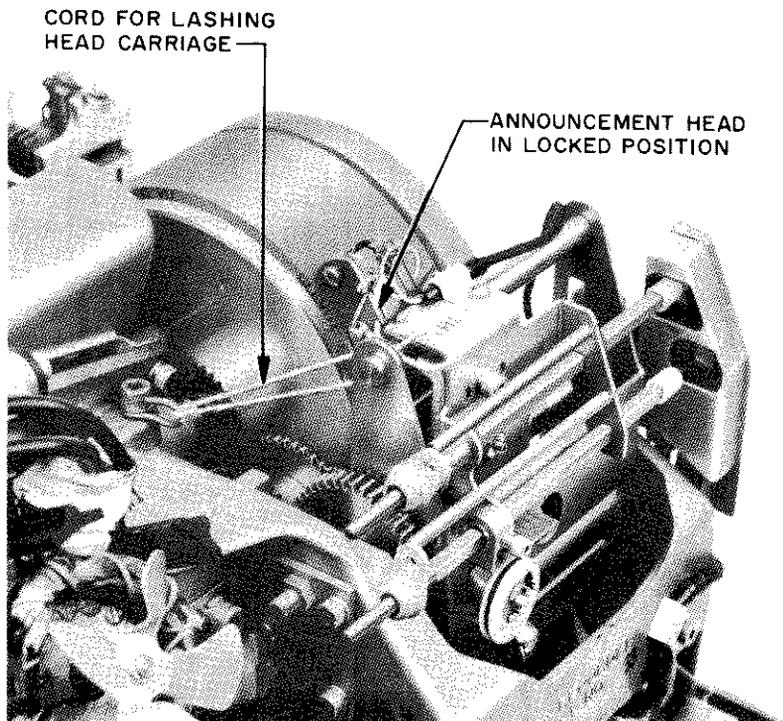

Fig. 1 — Securing Answering Set for Transit
- Use head-lock spring to secure announcement head in locked position (Fig. 1).
and place the carriage in the extreme left-hand position (Fig. 1).